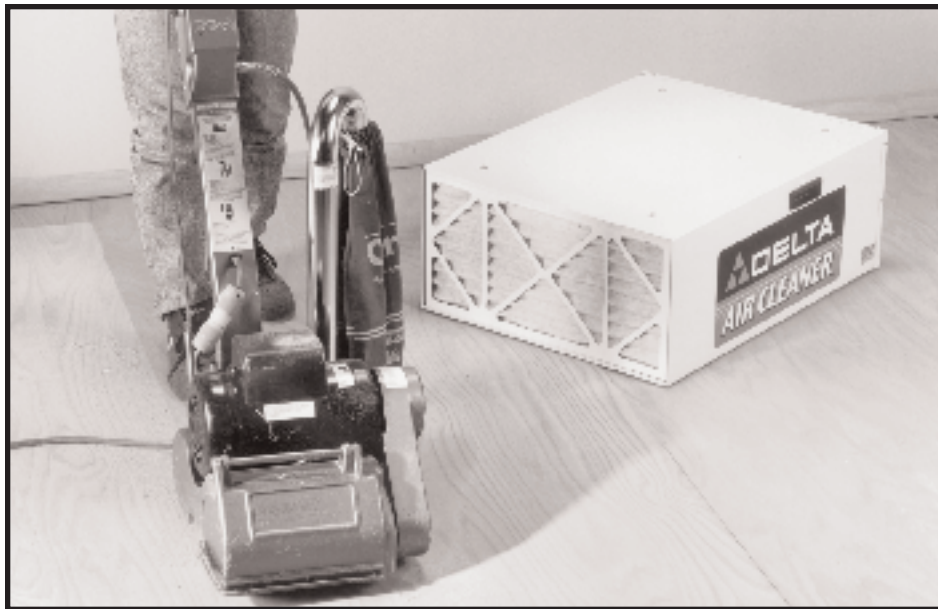

Fig. 16
5. Fig. 16, illustrates the air cleaner being used in a floor sanding application.